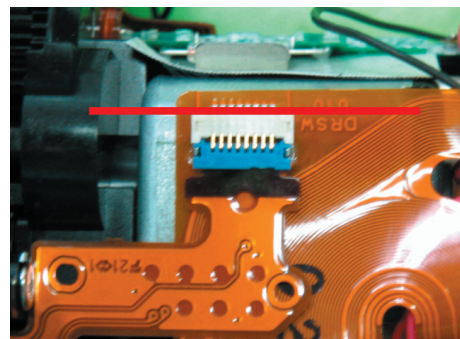

Fig. 111
(4)Be careful not to insert the Door Switch FPC Ass'y at an angle and assemble it at the position shown in Fig. 111.